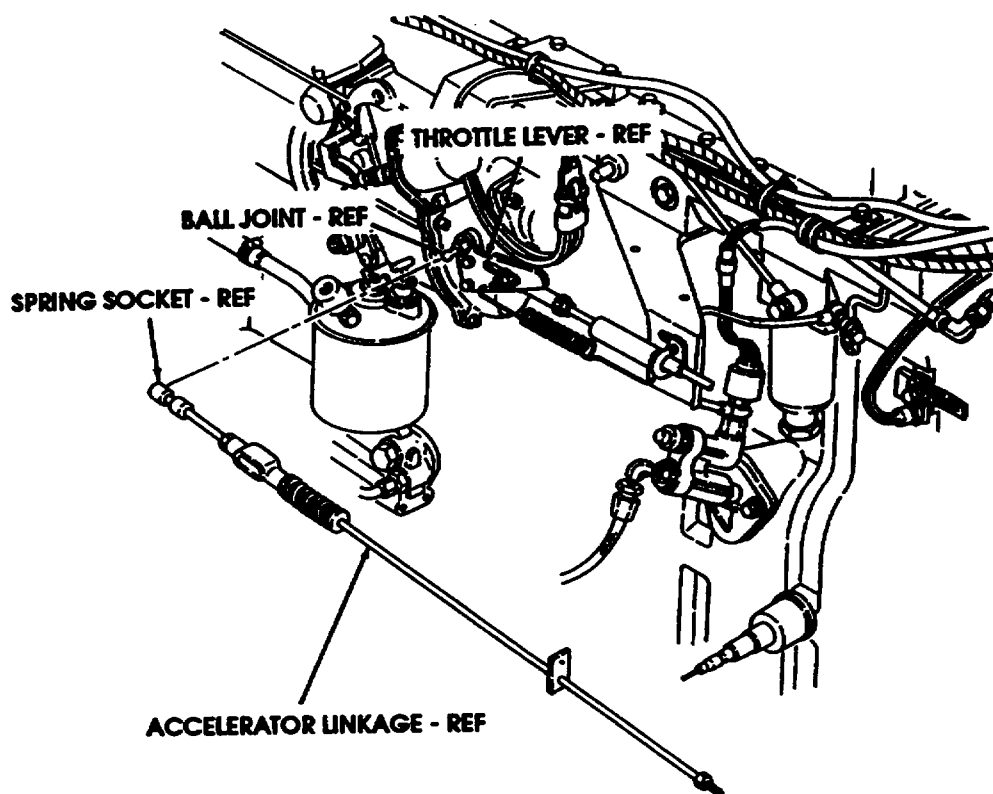

Figure 1
- (1) Set parking brake I(TM 9-2320-272-10).
- (2) Raise and secure hood (TM 9-2320-272-10).
- (3) Remove engine splash shield (TM 9-2320-272-10).
- (4) Depress spring socket and remove accelerator linkage from ball joint on throttle lever as shown in figure 1.